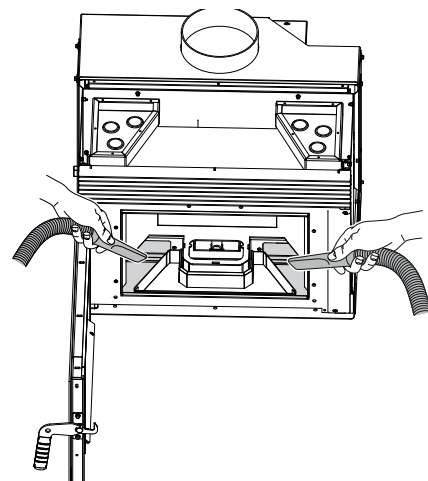

fig. 7.19
- F) Vacuum the remaining ash (fig. 7.19)